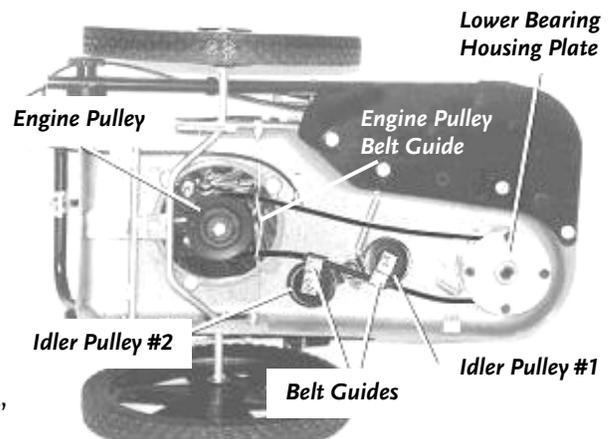

Figure 25
6. Install the new Belt. Be sure the Belt is on the inside of Idler Pulley #2, the outside of Idler Pulley #1 and correctly fitted around the Engine Pulley and in between the Engine Pulley Belt Guide (**Figure 25**).
7. Replace the Lower Bearing Plate, being sure to **align the notch with the locking tool hole** in the side of the Trimmer Housing and install the four (4) set screws in this order: Install one (1) set screw and make snug, then install and snug the set screw opposite it. Repeat for the remaining two (2) set screws.
8. Tighten all four (4) set screws in the same pattern. Do not over tighten.
BEFORE REPLACING THE BRAKE ARM, CHECK THAT THE MOUNTING OF THE BELT IS ON THE CORRECT SIDE OF THE IDLER PULLEYS (SEE *FIGURE 25* ON PAGE 35), AND NOT FRAYED, WORN OR STRETCHED. ALSO, SEE ADJUSTING THE TRIMMER HEAD BELT TENSION THROUGH THE TRIMMER CONTROL CABLE ON PAGE 42.